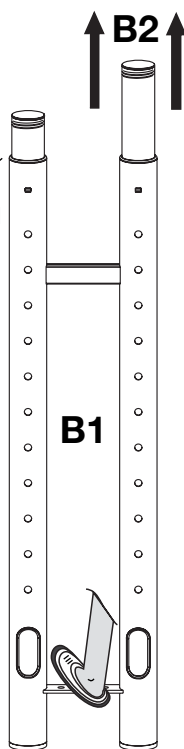

figure 2
- 2 Hold the poles **B1** & **B2** with your hands and use your left foot on the cross bridge of **B1** for stability. Pull **B2** upward until you reach your desired height. Twist **B2** so that the spring plunger locks into the nearest spring plunger hole. (figure 2)